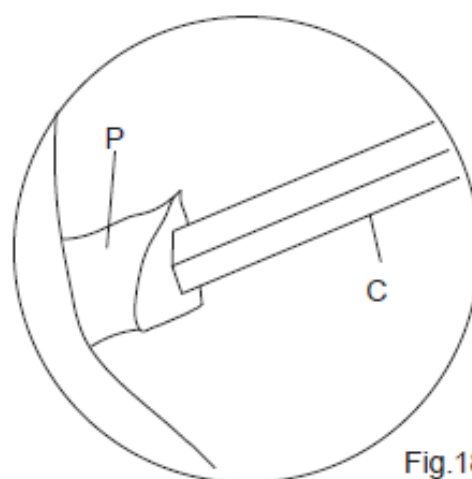

Fig.18
**Step 11B:** Secure the Main Roof Canopy (P) to the four Main Roof Side Supports (C). See Figure 18.